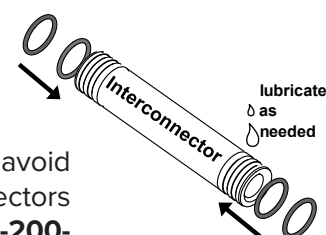

Figure TMM-200-1
3. If required, assemble interconnectors with supplied o-rings carefully to avoid any scratches. Use glycerin as a lubricant. Keep assembled interconnectors in a clean place until inserting them into permeate tubes (**Figure TMM-200-1**).